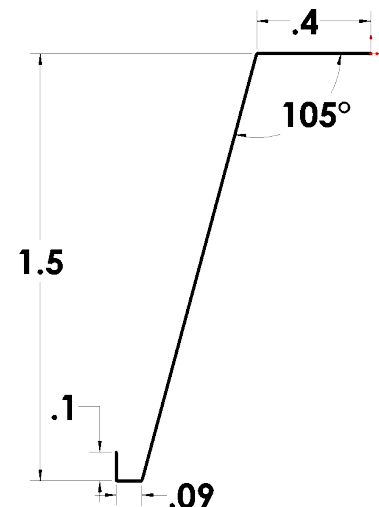

Fig. 3
Step 5. Click **Smart Dimension**  (S) on the Sketch toolbar.
Step 6. Add dimensions, **Fig. 3**. To **Smart dimension angle**, click both lines then move the cursor between lines and click. Key-in **105** for the dimension and press ENTER.